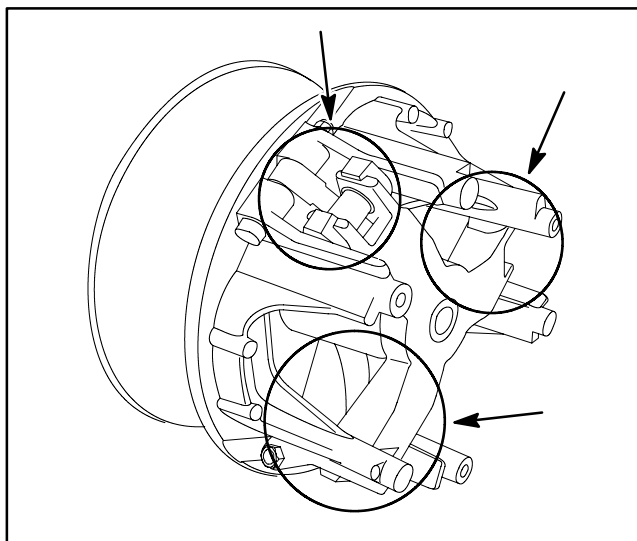

Figure 7
4. Lubricate the clutch components as shown in Figure 7 using Toro Dry Lubricant Spray (see Special Tools in Chapter 5 – Drive Train).
5. Install cover to clutch and secure with three (3) cap screws. Torque cap screws from 75 to 100 in-lb (8.5 to 11.3 N-m).